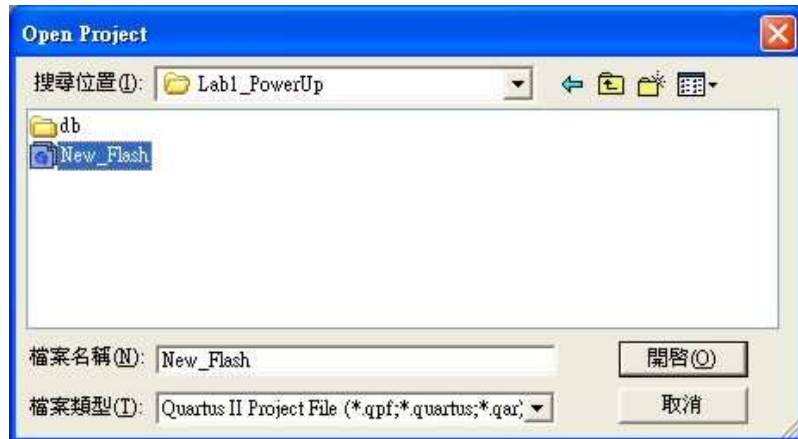

Figure 4.2. Select the only project in Lab1_PowerUp directory
- ✓ Select The NewFlash Quartus II project under Lab1_PowerUp directory. Refer to Figure 4.2.